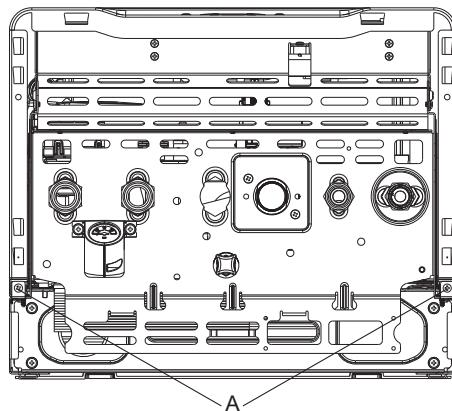
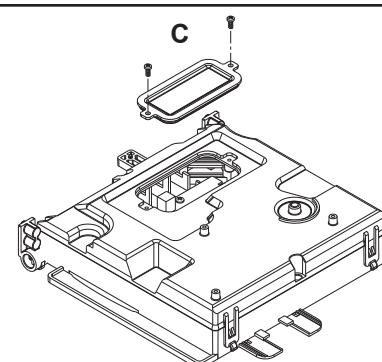

Fig. 7
Fig. 9
4. 电气连接 (Fig.7–Fig.9)
—松开壳体的固定螺钉 (A) (Fig.7)